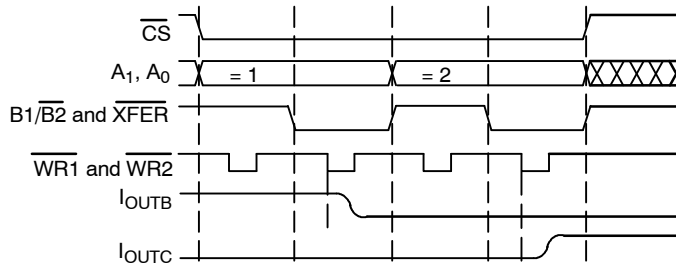

Figure 9. Automatic Transfer to DAC Latches
3) Automatic transfer to DAC latches. An 8-bit bus can update any DAC with two cycles by connecting $\overline{WR1} = \overline{WR2}$ and $B1/\overline{B2} = \overline{XFER}$. This is the correct individual DAC update for 8-bit busses (Figure 9.).